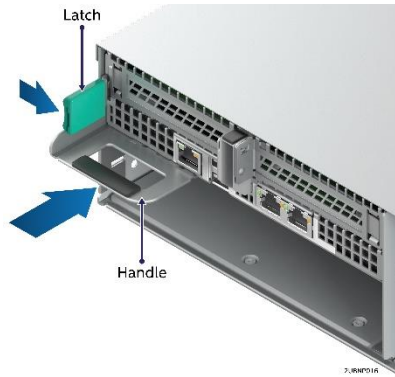

Figure 23. Installing the compute module
3. While pressing the latch, push the compute module along the chassis rail until the latch locks in position (Figure 23).